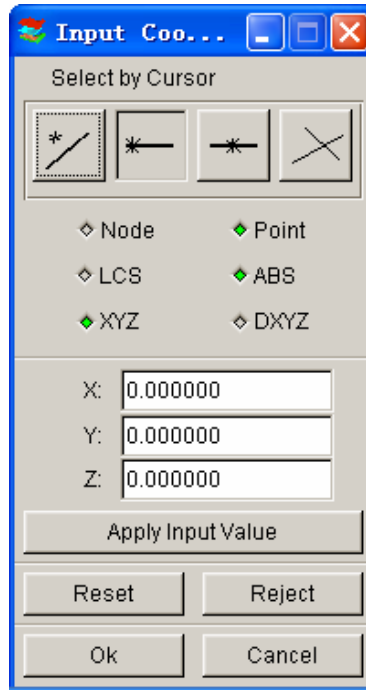

Figure 5.3.14 Select Node/Point
- Choose either NODE/POINT or ORIENTATION VECTOR from the dialog window as in Figure 5.3.14.